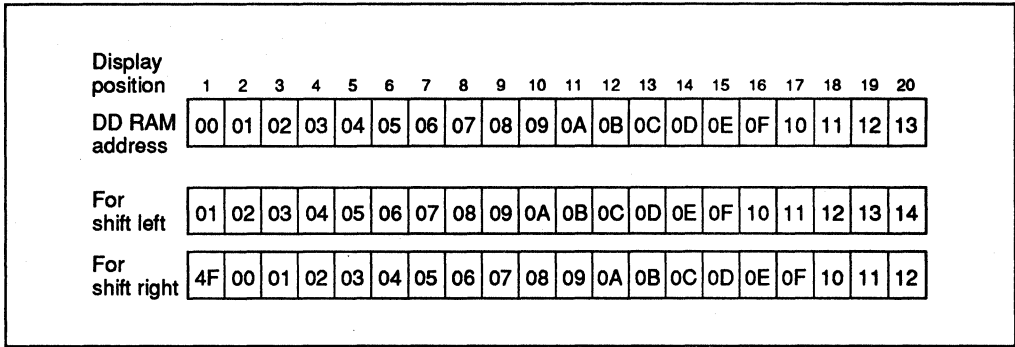

Figure 3 1-Line by 20-Character Display Example
- Case 1: When there are fewer than 80 display characters, the display begins at the head position. For example, if using only the HD66702, 20 characters are displayed. See figure 3.
When the display shift operation is performed, the DD RAM address shifts. See figure 3.